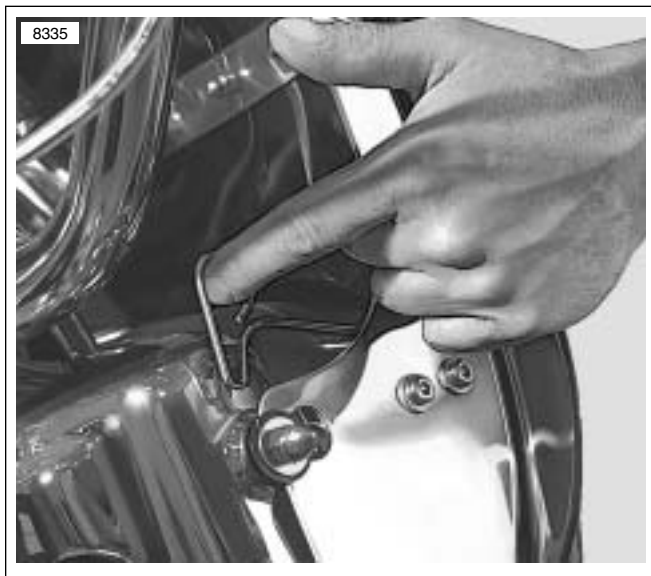

Figure 5. Removing/Installing Wind Deflector
1. See Figure 5. Standing in front of motorcycle, raise wire-form latch springs on each side of wind deflector.
24. Connect wire connector to socket on back of headlamp bulb. Install and secure headlamp assembly (9) to headlamp nacelle (7) with eight screws (10).
25. Secure chrome ring (11) to headlamp nacelle with screw (12).
26. See Figure 5. Standing in front of motorcycle, lower wind deflector into position on rubber grommets on lower headlamp nacelle fork studs.